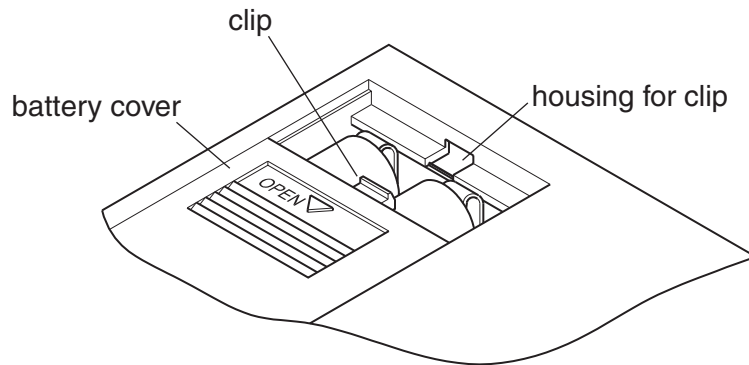

Fig. 6
- (ii) Fig. 6 shows the battery cover on the 1985 calculator held in place by a clip that is part of the moulding. Give **one** property that is required from the plastic used in the battery cover.